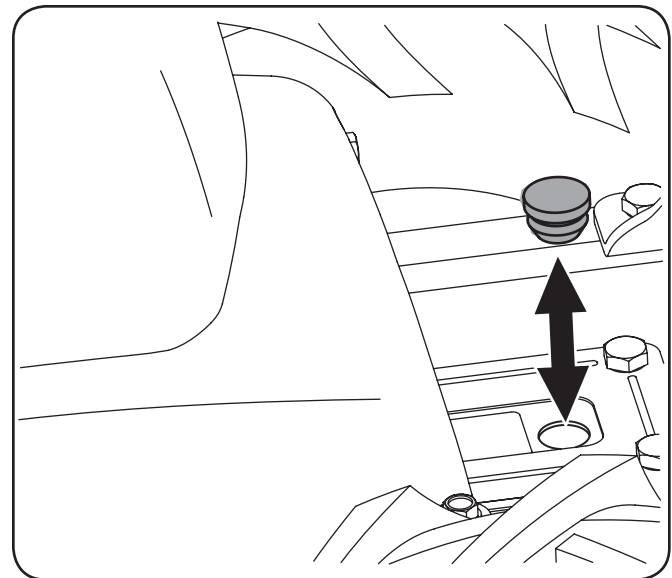

Figure 6-1
3. Remove the oil fill plug from the transmission housing and look inside the oil fill hole to locate the main drive shaft situated below the hole. See Figure 6-1.